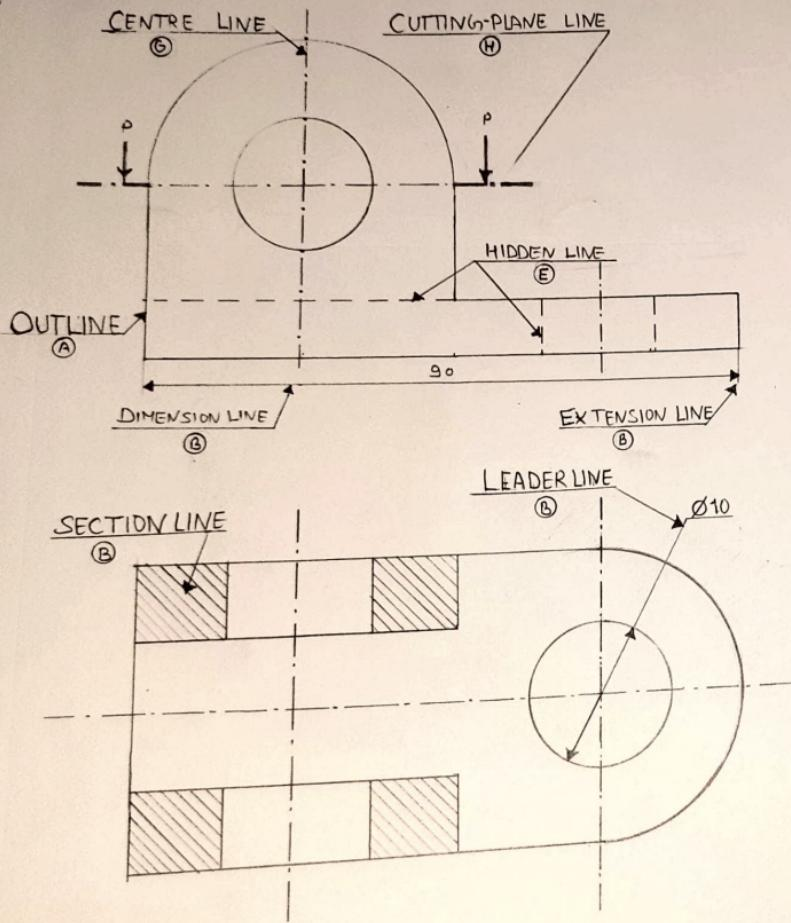
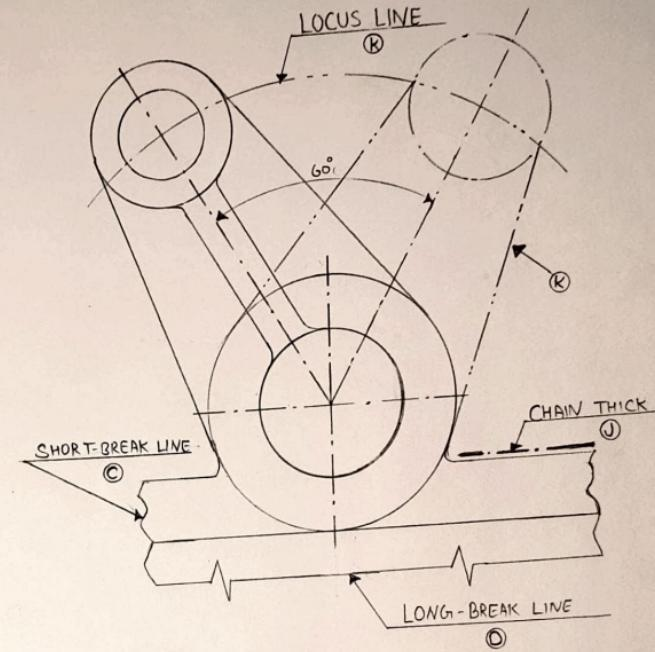

FIG. 3-2
FIG. 3-3
- (1) Outlines(A): Lines drawn to represent visible edges and surface boundaries of objects are called outlines or principal lines. They are continuous thick or wide lines [Fig. 3-2].
- (3) Dimension lines (B): These lines are continuous thin lines. They are terminated at the outer ends by pointed arrowheads touching the outlines, extension lines or centre lines (fig 3-2).
- (4) Extension or projection lines (B): These lines also are continuous thin lines. They extend by about 3 mm beyond the dimension lines (fig. 3-2).
- (5) Construction lines (B): These lines are drawn for constructing figures. They are shown in geometrical drawings only. They are continuous thin light lines.
- (6) Hatching or section lines (B): These lines are drawn to make the section evident. They are continuous thin lines and are drawn generally at an angle of 45° to the main outlines of the section. They are uniformly spaced about 1mm to 2mm apart (fig. 3-2).
- (9) Short-break lines (C): These lines are continuous, thin and wavy. They are drawn freehand and are used to show a short break, or irregular boundaries (fig. 3-3).
- (10) Long-break lines (D): These lines are thin ruled lines with short zigzags within them. They are drawn to show long break (fig. 3-3).
- (11) Hidden or dotted lines (E or F): Interior or hidden edges and surfaces are shown by hidden lines. They are also called equal lengths of about 2 mm dotted lines. They are of medium thickness and made up of short dashes of approximately another hidden line or an outline, their point of intersection or meeting should be clearly shown (fig. 3-2).
- (12) Centre lines (G): Centre lines are drawn to indicate the axes of cylindrical, conical or spherical objects or details and also to show the centres of circles and arcs. They are thin, long, chain line composed of alternately spaced dots approximately 1 mm apart. The long dashes are about 9 to 12 mm. Centre lines should extend beyond the outlines to which they refer. For the purpose of dimensioning or to correlate the views they may be extended as required. The point of intersection between two centre lines must always be indicated. Locus lines, extreme positions of movable parts and pitch circles are also shown by this type of line (fig. 3-2 and fig 3-3).
- (13) Cutting-plane lines (H): The location of a cutting plane is shown by this line. It is a long, thin, chain line, thick at ends only (fig 3-2).
- (14) Chain thick (I): These lines are used to indicate special treatment on the surface.
- (15) Chain thick double-dots (F): This is a chain thin double-dot line.